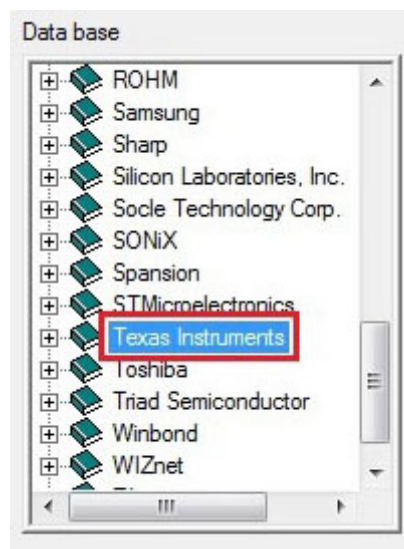

Figure 1.10: Select the manufacturer of your microcontroller
4. To select a microcontroller double click on *Texas Instruments* and select **TM4C1233H6PM**. Click *OK*.(See Figure 1.10 and 1.11)